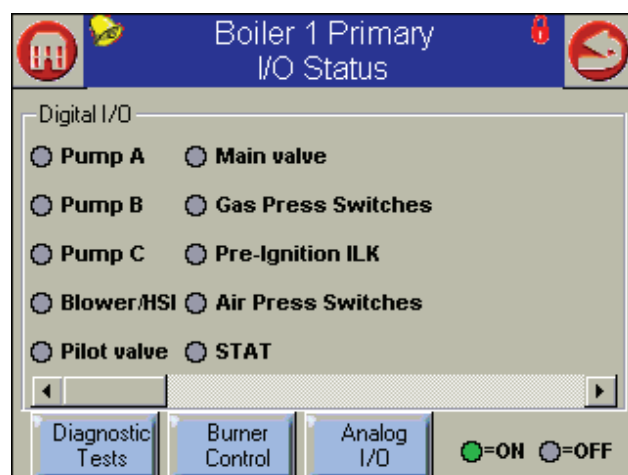

Fig. 132 - Digital I/O Screen
1. The first screen in the sequence lists digital inputs and outputs. These are signals that are either “on” or “off.” See Fig. 132.